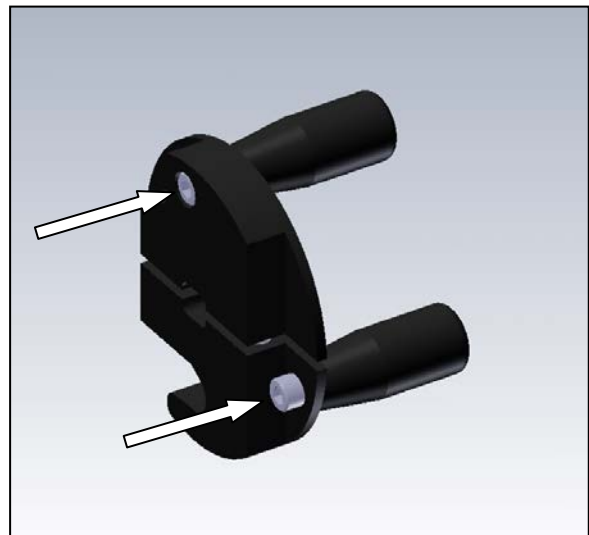

Figure 3-273. Cradle Latch Lever
2. Once the cradle latch lever is free of the machine, remove the two handles by unthreading the two screws shown (Figure 3-273).